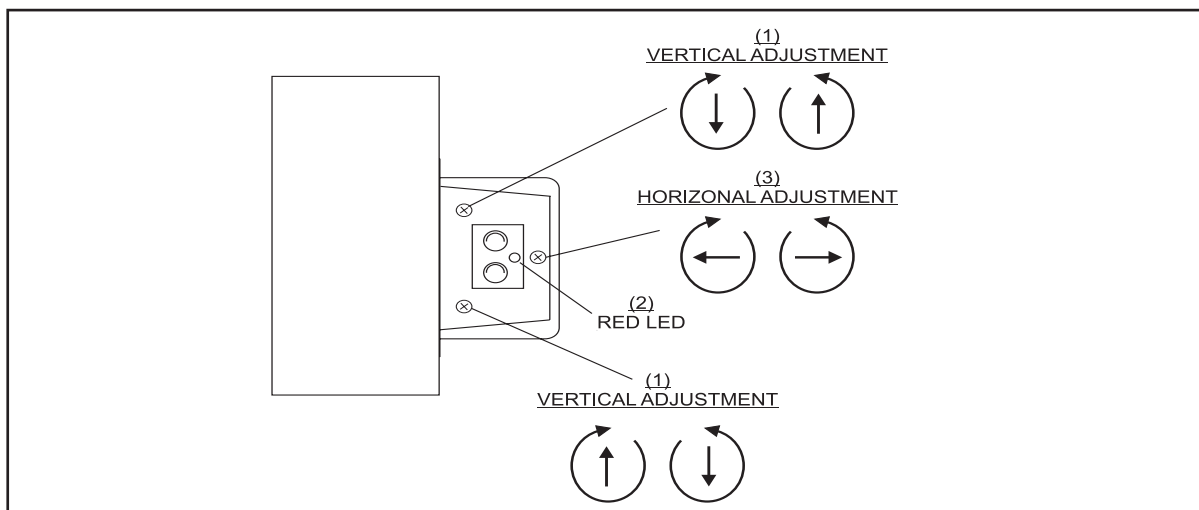

Figure 5-2. Ball Detect Adjusting.
The red LED (Light Emitting Diode) mounted on the ball detect is “on” when the beam is not being received back from the reflector. This indicates a ball or some object is in the beam’s path or there is an alignment problem. Refer to *Figure 5-2*.
4. Using the vertical and horizontal adjusting screws (refer to *Figure 5-2*) move the beam until it is aimed exactly on the center of the mounted reflector.